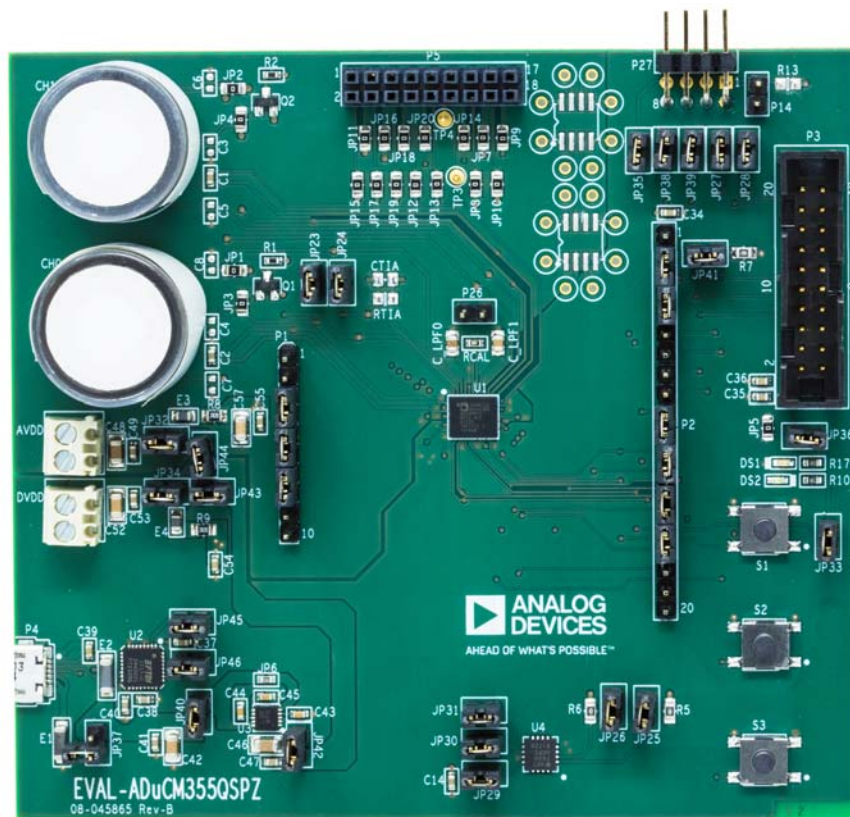
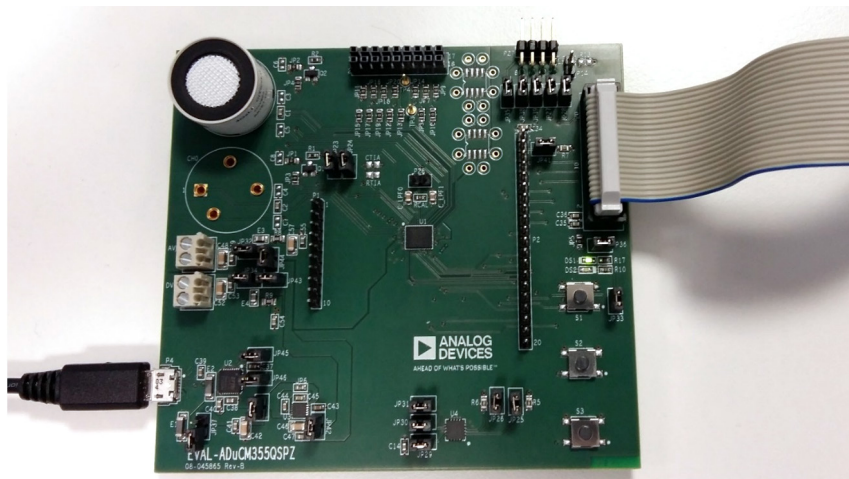
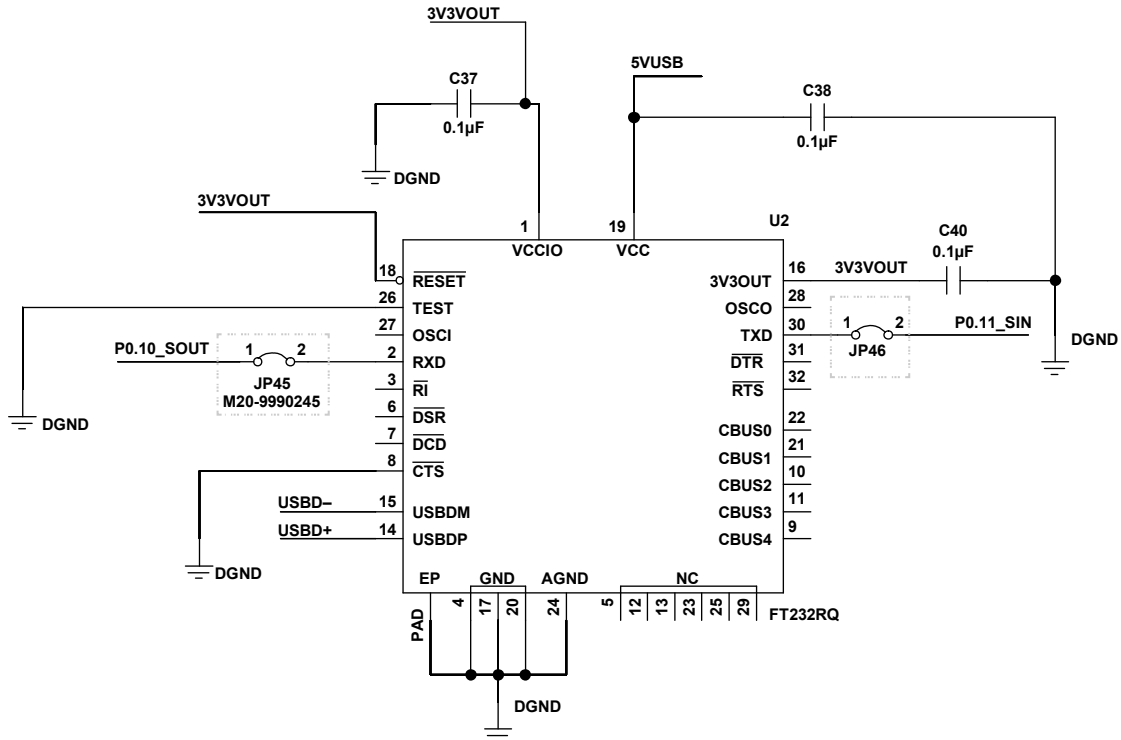
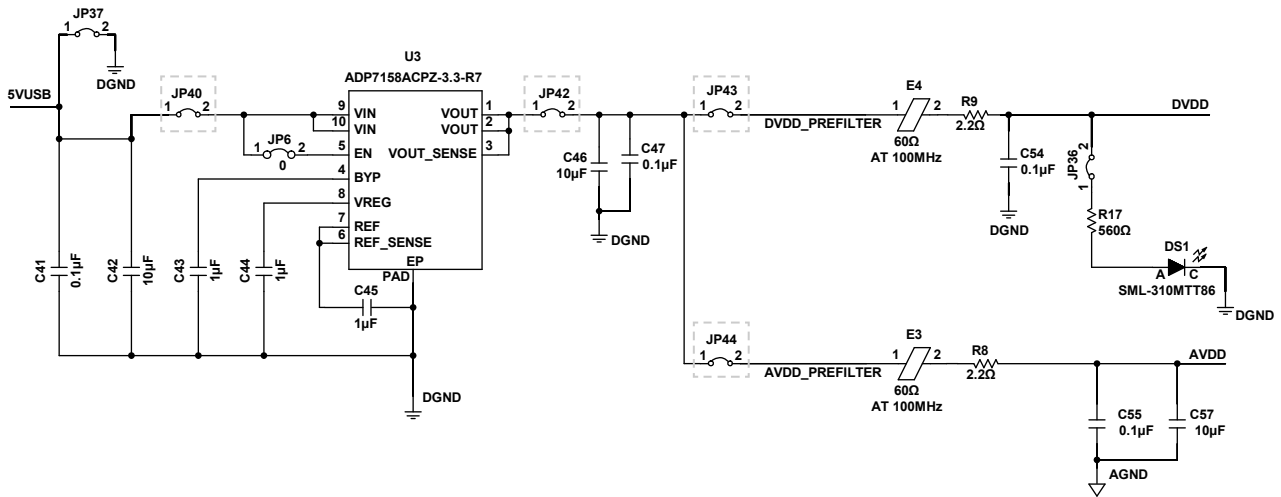

Figure 1.
Figure 2. Power via MicroUSB Cable Directly
Figure 3. JP45 and JP46 Connect the ADuCM355 UART Pins to the USB Transceiver
Figure 4. Schematic Section Showing Key Jumpers Around LDO and Power Supply
- JP45 and JP46 connect the UART pins from the ADuCM355 to the UART-USB transceiver chip (U2) (see Figure 1 and Figure 2).
- JP40 connects the 5 V USB supply to the input of the LDO (U3) (see Figure 1, Figure 3, and Figure 4).
- JP42 connects the LDO output (3.3 V) to the board power supply filters (see Figure 1, Figure 3, and Figure 4).
- JP43 and JP44 connect the DVDD rail to filters for the AVDD\_DD and AVDD analog supplies to the ADuCM355 (see Figure 1, Figure 3, and Figure 4).